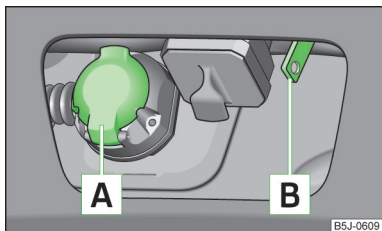

Fig. 130
- › Insert the trailer cable into the 13-pin socket **A** » Fig. 130 .